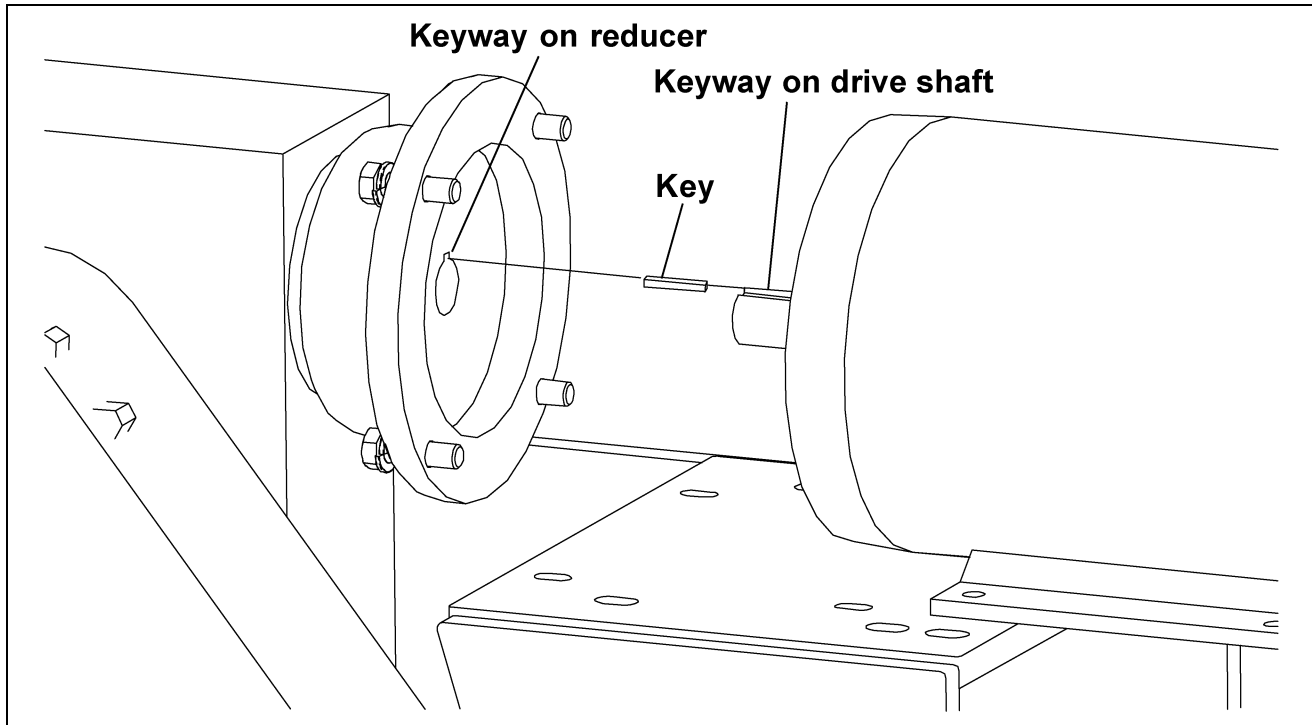

Figure 5W
C. Line up keyway on shaft with keyway on reducer and insert shaft into motor. (See Figure 5W.)